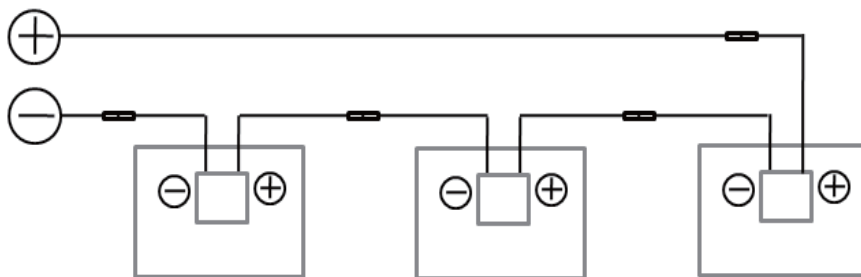
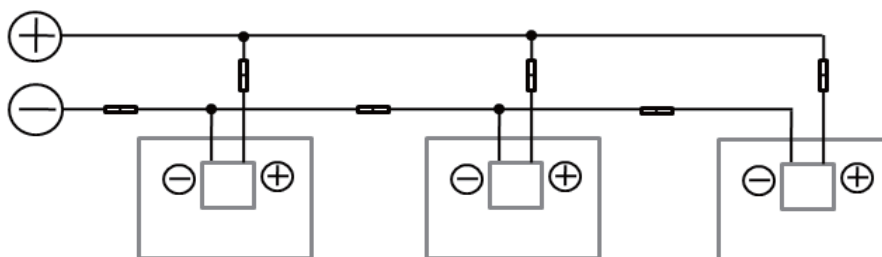
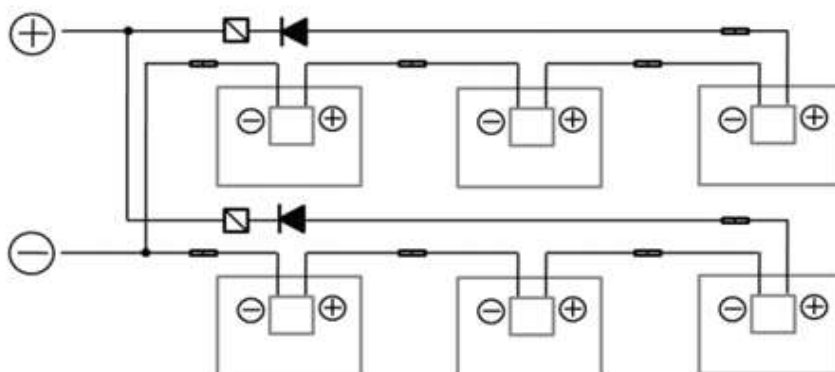

Fig. 10-1 Series Connection
Fig.10-2 Parallel Connection
Fig.10-3 Parallel-series Connection
- In order to ensure the normal running of the system, when connecting modules or loads, please ensure that the polarity of the cable connection is correct. If the modules are incorrectly connected, the bypass diodes and junction boxes may be damaged. PV modules can be connected in series (Fig. 10-1), in parallel (Fig.10-2) and in series-parallel (Fig. 10-3). The number of serial or parallel connections shall be reasonably designed according to the system configuration. Also note that if the number of parallel connections  $\geq 2$ , there must be an over-current protection device on each string assembly.